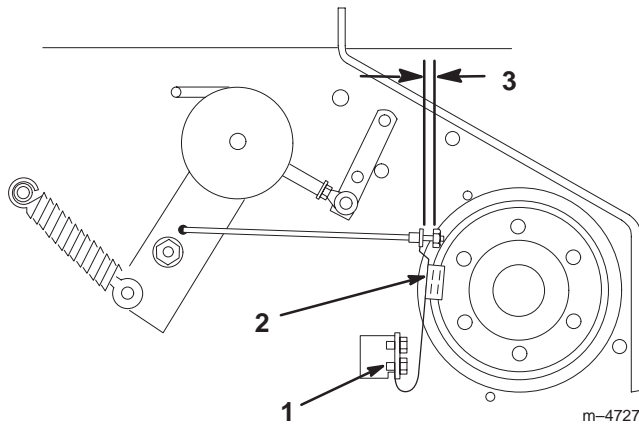

Figure 49
3. If necessary, adjust the spring mounting bolts so that the blade brake pad rubs against the pulley edges (Fig. 49).
4. Adjust the nut at the end of the blade brake rod until there is 1/8–3/16 in. (3–5 mm) between the nut and spacer (Fig. 49).